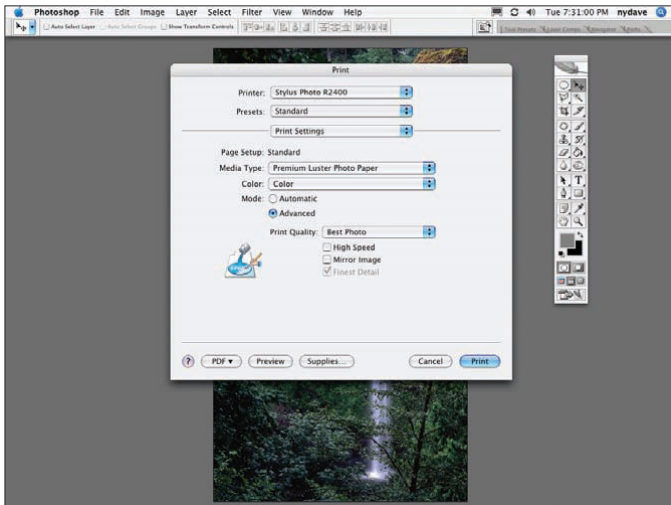

Figure 4.24
7. If you click on the Presets drop-down menu, you'll see the a list of driver choices. Mouse down to Print Settings, and the dialog box will change to what is shown in Figure 4.24.